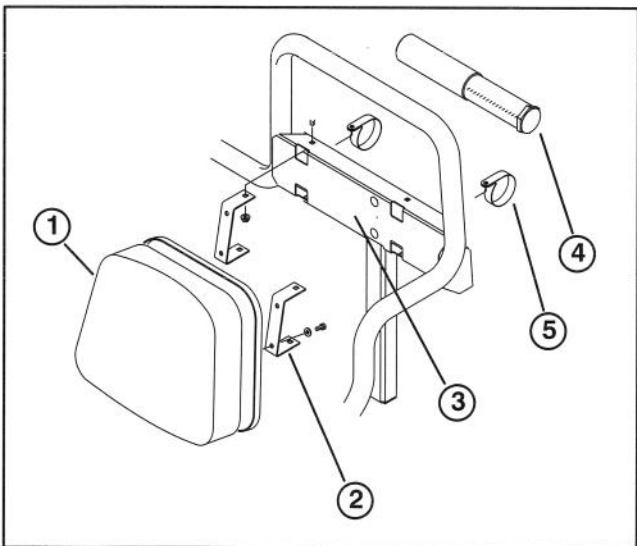

**Figure 5**
## INSTALL SEAT BACK CUSHIONS, MANUAL TUBE AND BED SUPPORT (Fig. 5 – 7)
1. Mount (2) seat back brackets to each seat back cushion with (4) 1/4–20 x 3/4" lg. capscrews and 1/4" flat washers. Position brackets on seat back cushions as shown in figure 5.